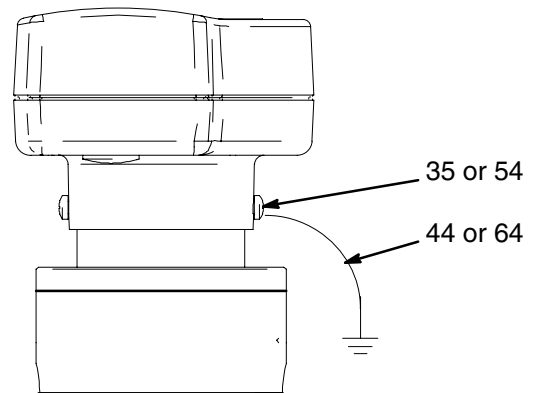

Fig. 6
2. Ground the Informer display by connecting the ground wire (44 or 64) from the screw (35 or 54) to a true earth ground. See Fig. 6.